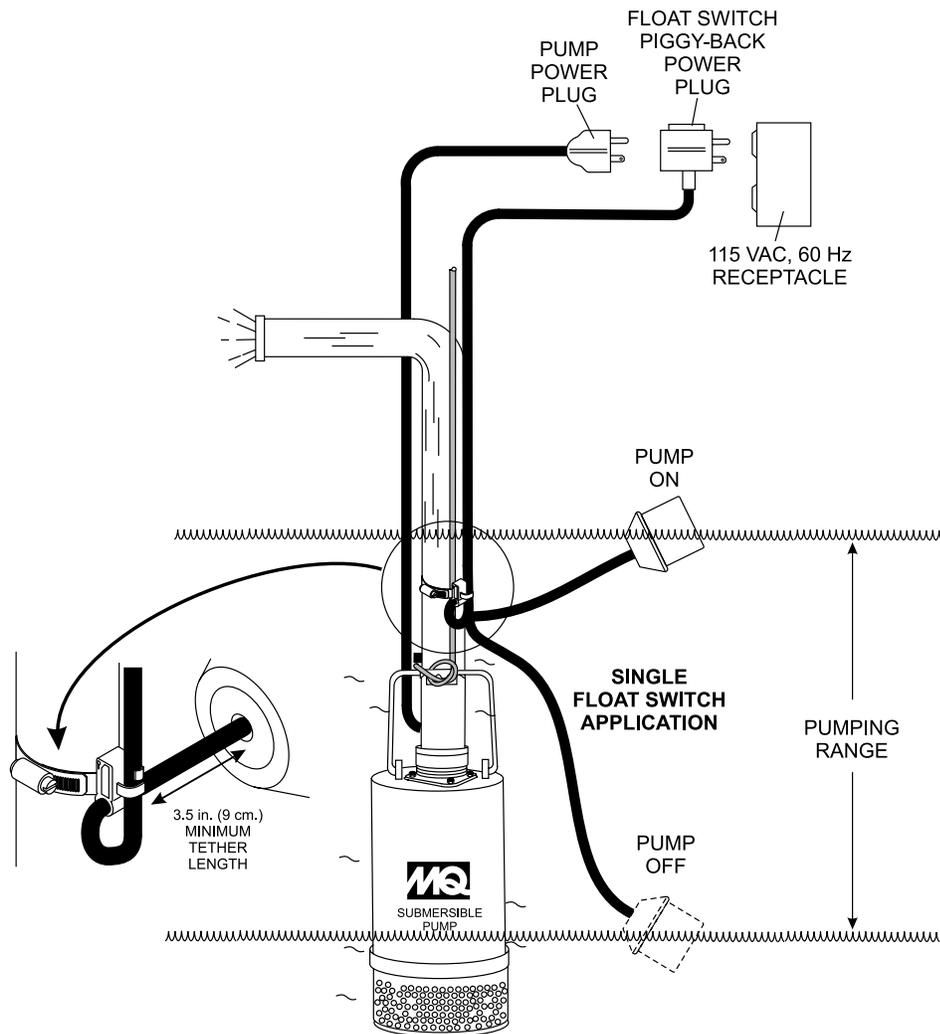

Figure 6. Single Float Switch Application Diagram
Single or **dual** control float switches can be used for the unattended operation of the submersible pump. When using the **piggy-back power configuration** (plug), the ST-1500 series pumps **DO NOT** require the use of a control box. In this configuration (piggy-back), the SW-1 (single float switch) or SW-2 (dual float switch) are required. Figure 6 is an example of a single float switch application.
1. Determine the required **cord tether length** as shown in Figure 6 and Table 3.
2. Place the cord into the clamp as shown in Figure 6.
Figure 6 shows a **single float** switch application. For dual float switch capability use a **Model SW-2** mercury type float switch.
2. Connect the float switch or switches to the AC power receptacle as shown in Figure 6.
1. Remove the float switch input connector housing, then route the float switch wires through the cable gland on the control box. Attach the wires of the float switch to the terminal block as indicated by Table 5 and Figure 6.